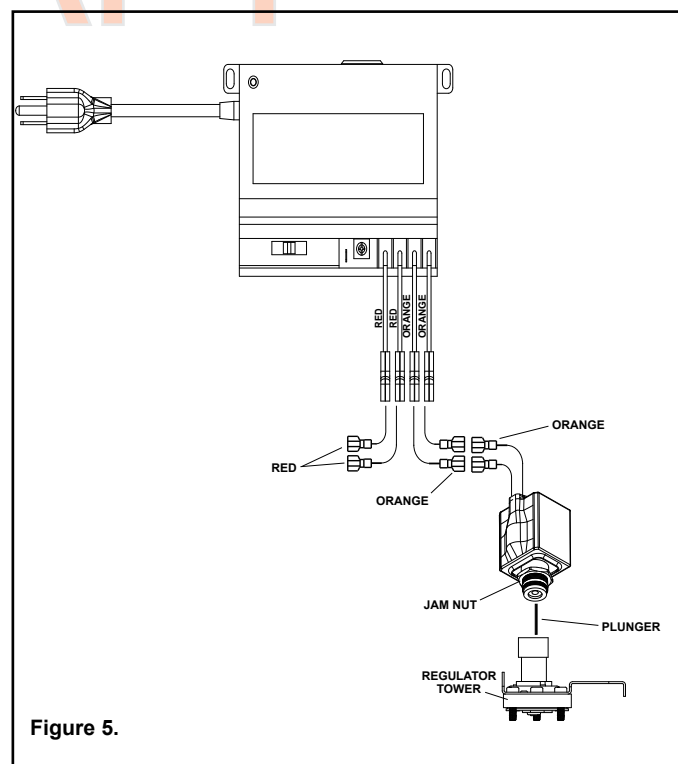

Figure 5.
1. Connect the two leads from the flame control solenoid to the orange leads from the receiver (see Figure 5).